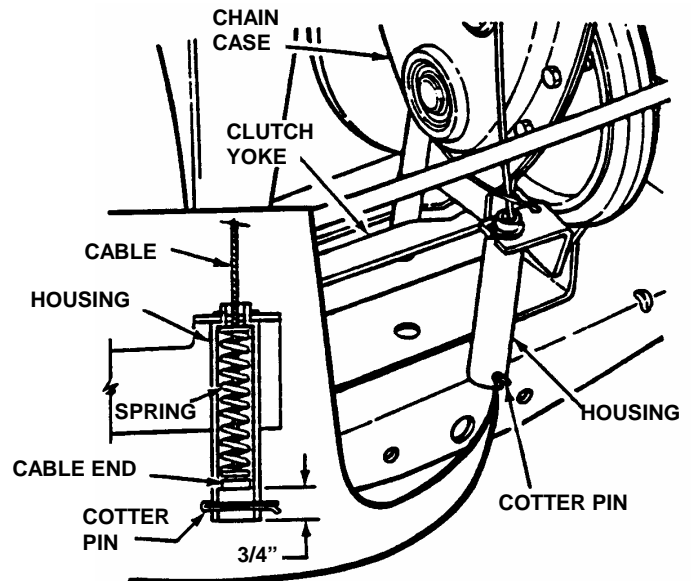

FIGURE 4.9
5. Measure the distance between end of clutch/brake cable and bottom of housing. Measurement should be 3/4". See inset of Figure 4.9.
7. Adjust cable up or down using the jam-nuts to obtain a distance 3/4" between end of clutch/brake cable (adjustment shown in inset of Figure 4.9) and bottom of housing. See Figure 4.9.
5. Move transmission shift lever to the neutral (N) position.
6. Rotate clutch yoke (clutch yoke shown in Figure 4.9) out with your hand and work belt between drive disc and rubber driven disc.